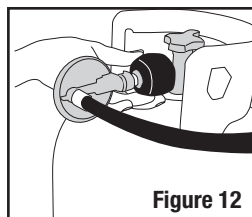

Figure 12
- 9. Attach the Gas Regulator Valve to the Propane Tank.** Remove the protective plastic cap from the threaded hose connection on the propane tank and attach regulator, turning clockwise to tighten. Note: The hose fitting must be securely hand tightened to prevent gas leakage (**Figure 12**).